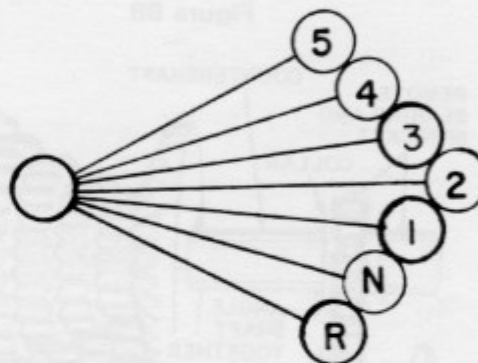

Figure 87
1. Clean outside surface of transmission. Position shift lever in neutral position (Figure 87) as indicated by shift pattern. Remove neutral start switch. (Figure 85)